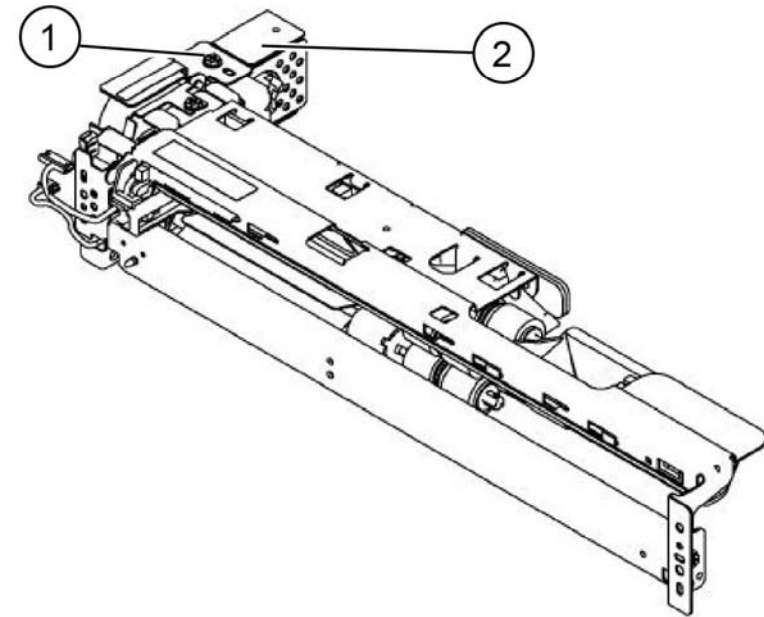

Figure 3 Tray 3 bracket removal
6. Remove the FDR 2T cover from the main tray 3 feeder, Figure 3.
- a. Remove the screw (1).
- b. Remove the FDR 2T cover (2). Retain the cover for installation onto the new tray 4 feeder assembly.
Ensure that the FDR 2T cover is installed onto the new tray 3 feeder assembly. Refer to Figure 3.